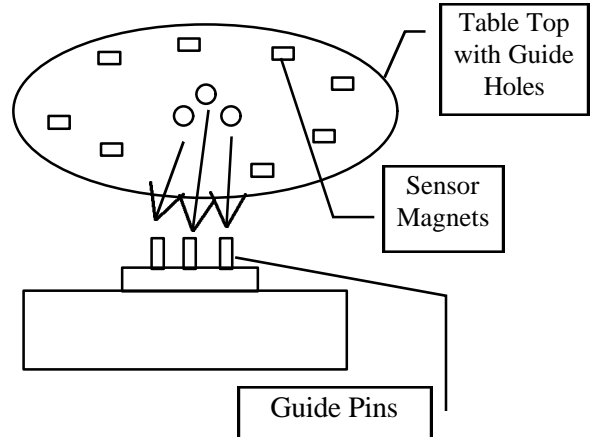

Figure 1
2. Place the table top, with the 17 sensor magnets face down, on the turntable. The three guide pins on the turntable will slide the table top into the correct position (Figure 1).